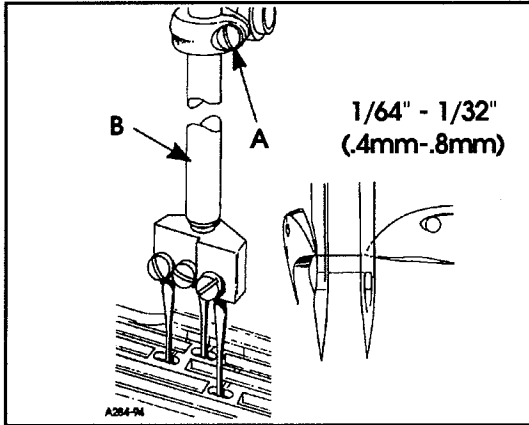

FIG. 9
The height of the needle bar is correct when the top of the needle eye is  $1/64''$  to  $1/32''$  (.4mm - .8mm) below the underside of the looper, with the looper point even with the right side of the needle. To make adjustment loosen screw (A, Fig. 9) and move needle bar (B) as required to attain dimension.